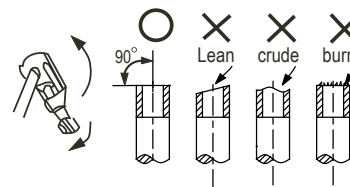

Fig. 4-1
- Cut pipe with a pipe cutter. (refer to Fig. 4-1)